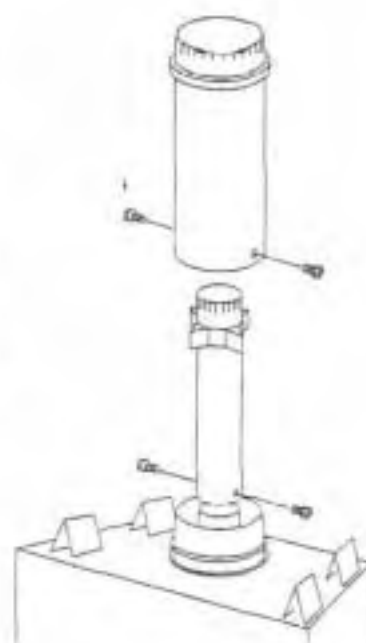

Figure 19
B. The vent sections are crimped at one end to provide a slip fit for elbows and additional vent sections. To begin a vent run, apply _Mill-Pac Black (700°F) high temperature sealant to the inner joint, being sure of a 100% seal (Figure 19). Slide the 5" (127 mm) inner section onto the center appliance collar. (Crimped end always upward). Locate and transfer drill a 1/4" (3 mm) diameter hole through the collar at the two (2) punched holes (180° apart). Use two (2) No. 8 x 1/2" sheet metal screws to secure the section.
C. Next, slip the outer section over the inner and onto outer appliance collar, bottoming out at the bead. Make sure the crimped end of both inner and outer vent sections are the same height. Secure using two (2) sheet metal screws (Figure 19).